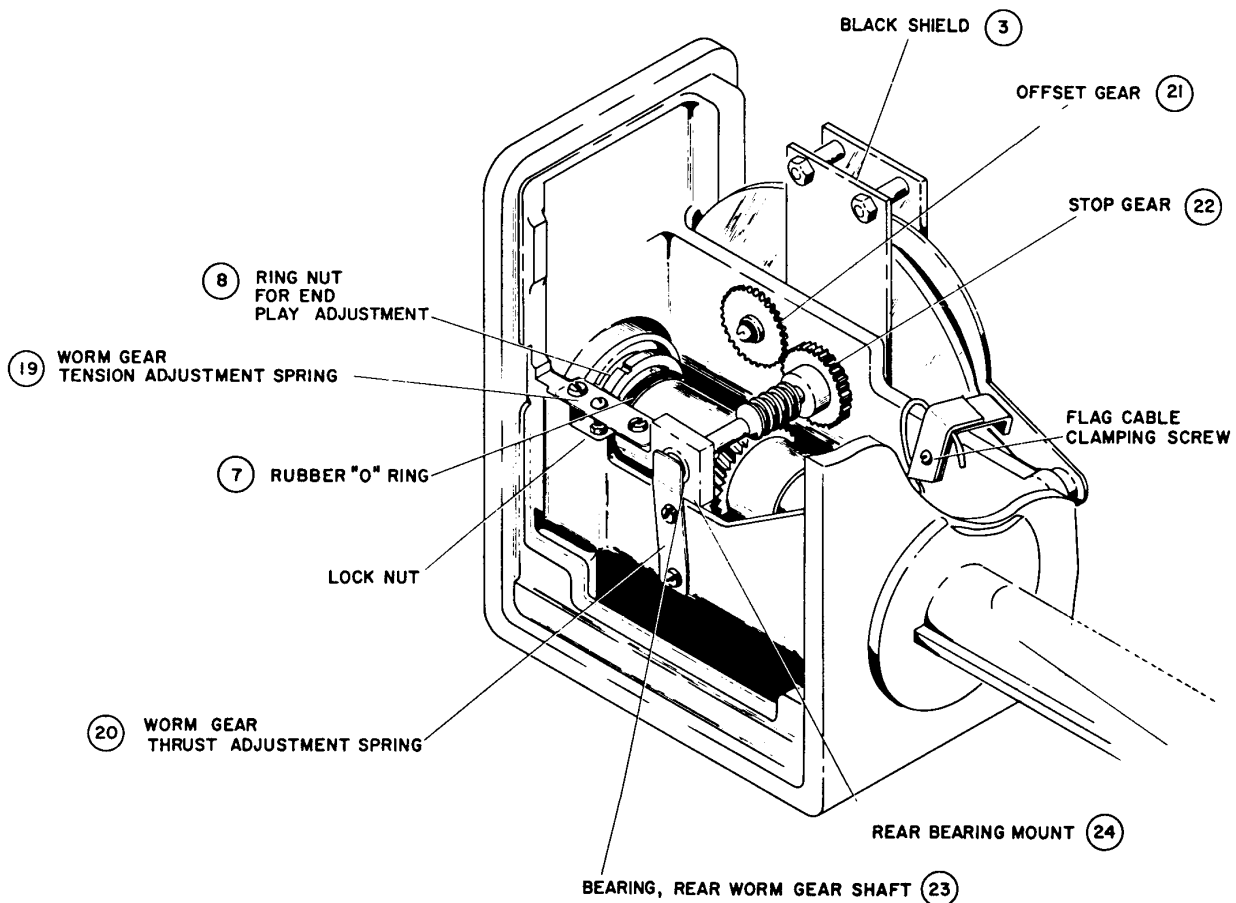

Figure 5 Backlash Adjustments
6. If excessive backlash is found, refer to Figure 5 and complete the rest of the procedure. If the backlash is within specifications the remainder of the adjustments in this paragraph need not be performed.
4. If adjustment is necessary, loosen the setscrews and the dial hub clamping screw (see Figure 5 on page 13) in the dial hub. Adjust the dial so the difference in power level between the two dots is 0.2 dB or less as indicated on the SWR meter. This aligns the dial to the angular position of the center section. Tighten cap screw, Allen setscrews, and recheck.
No maintenance is required on the K382A or the R382A. On other models, the only maintenance required is occasional lubrication of the bearing surfaces. The worm and worm gear, ball bearings, gears, flag shaft, and the ends of the center section (see Figure 5 on page 13) should be lubricated with a light grease such as Lubriplate #105V.*